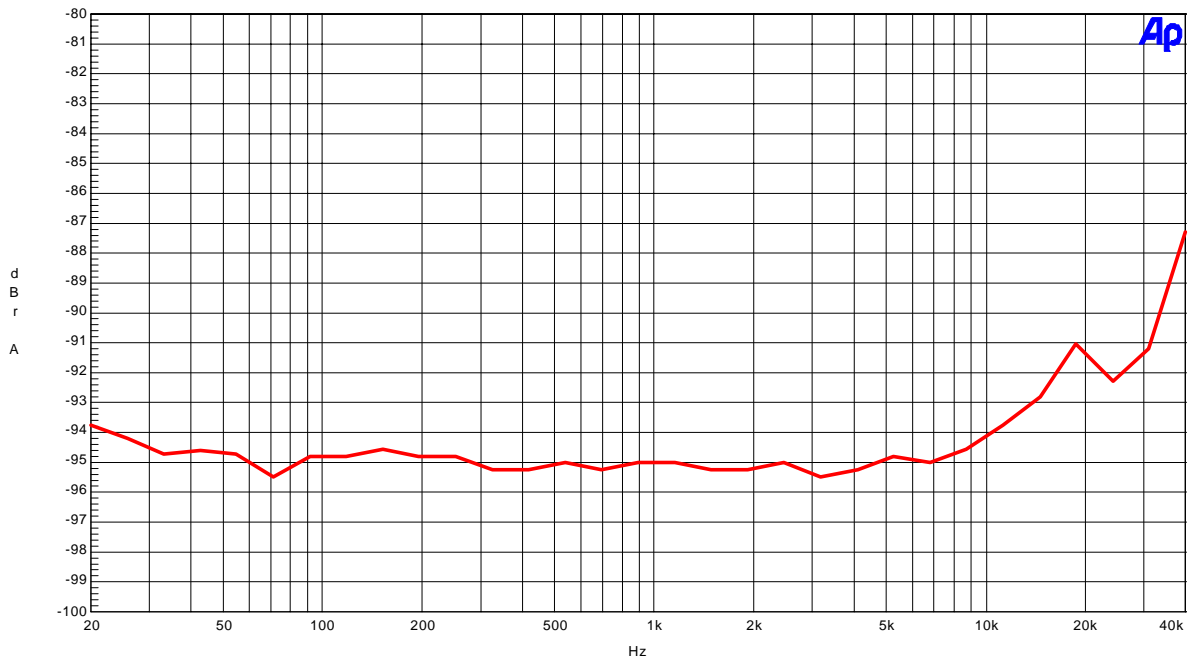

Figure 2-2. THD+N vs. Input frequency
- Figure 2-2. THD+N vs. Input frequency